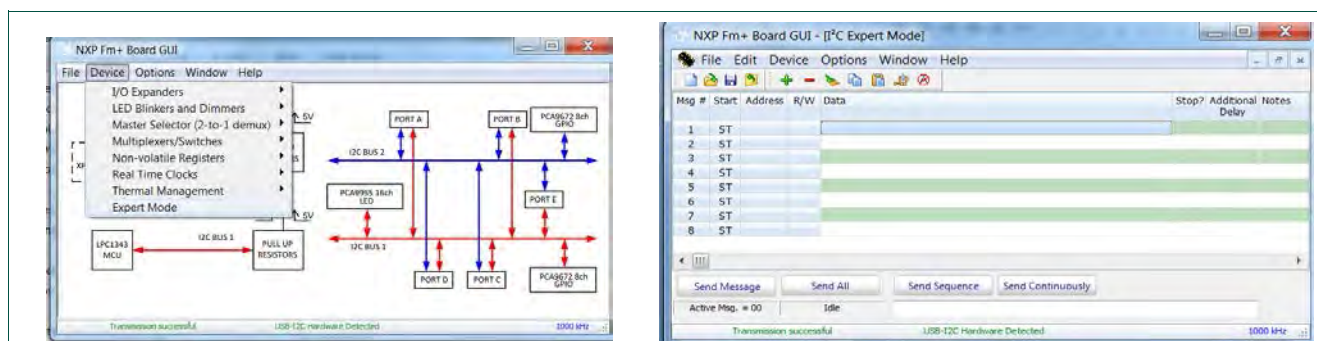

Fig 5. Select the Expert Mode from Fm+ development board GUI
The PCAL6524 is controlled by Fm+ development board GUI in Expert mode as shown in Fig 5.
When you have correctly installed the software and the demonstration board hardware is connected and recognized by the computer, start the Fm+ development board software. As shown in the Fig 5, when the demonstration board hardware is correctly connected to the USB port and the computer recognizes it, the message “USB-I2C Hardware Detected” is displayed on the bottom of the window.
1. From the ‘Device’ drop-down menus select ‘Expert Mode’ as shown in Fig 5.